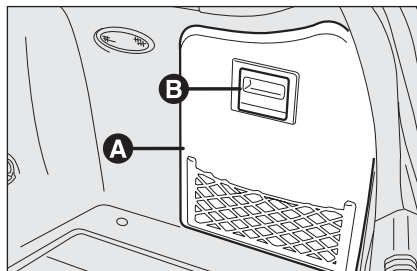

fig. 46
- use handle **B** to open the right lid (for versions/markets, where provided) **A-fig. 46**;